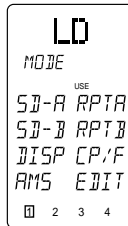

Figure 3
- After memorizing all desired remote codes, press the operation mode button **1** with the paper clip, and select the **USE** mode. The LCD display window will continue to display the **USE** indicator, and all of the newly memorized codes will be available (see Figure 3). For any button for which a new code was not learned, the factory programmed RC-5 code will still be transmitted as usual.